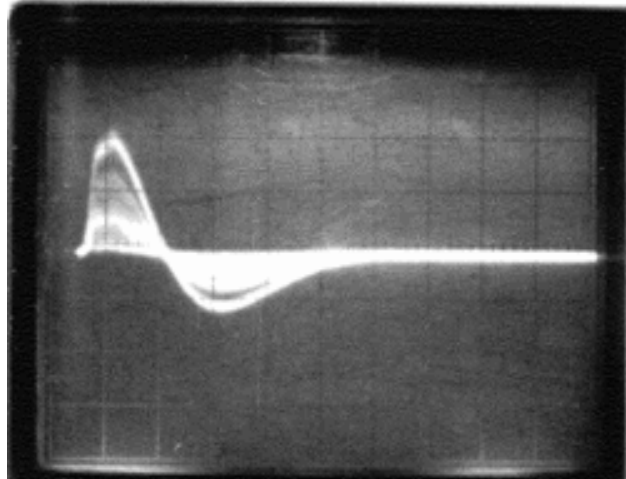

Figure 13: Amplifier Output Scope: 2 V/div; 1  $\mu$ sec/div
3. The amplifier, **located in the equipment rack (Figure 6 above)**, amplifies the small pulses from the PMT to a sufficiently large one necessary for the PHA program to run well (technically, it can see the pulses without the amplifier - why does the amplifier help? explain in your report). Feed the output of the PMT into the amp (you don't need a terminator here). Set the INPUT switch to NEG (since the PMT output are negative pulses), and connect the output to the coax connector labeled UNI (since the pulses are unipolar - that is, they are entirely negative as opposed to a signal that has positive as well as negative parts). Look at the output of the amp (without a terminator) on the Tektronix and WaveForms; you should see a positive pulse about 1  $\mu\text{sec}$  wide followed by a negative pulse that is of no interest (see Figure 13). Watch the effects of varying the gain controls. **Set the gain to produce a pulse that does not have a flat top** (what does a flat top indicate?).